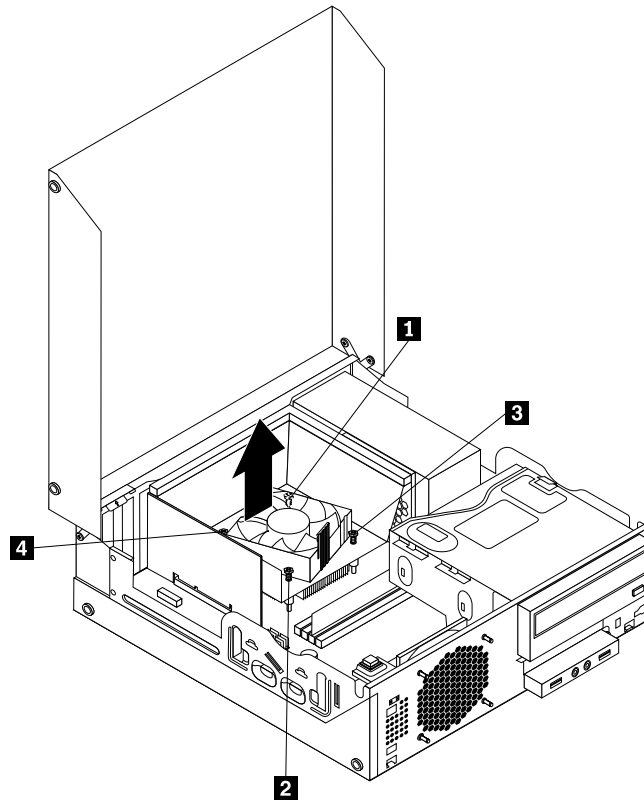

Figure 79. Screws that secure the heat sink and fan assembly
8. Follow this sequence to install the four screws to secure the new heat sink and fan assembly, as shown in Figure 79 “Screws that secure the heat sink and fan assembly” on page 141: